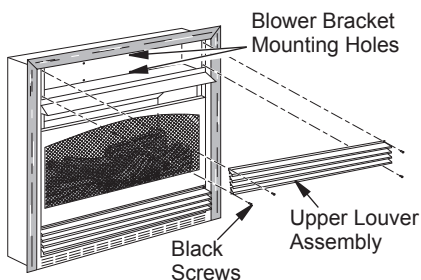

Figure 15 - Removing Upper Louver Assembly
2. Remove 4 screws from louver assembly (see Figure 15). Save these screws.
Note: When switch is in AUTO position, fan will start after heater has run for a few moments. Fan will continue to run for several moments after heater has been turned off. When switch is in the ON position, fan will run until turned to OFF. Reinstall upper louver assembly and hood if previously removed, (see Figure 15, page 13). Close lower louver door.
8. Reinstall upper louver assembly and hood if previously removed, (see Figure 15, page 13). Close lower louver door.